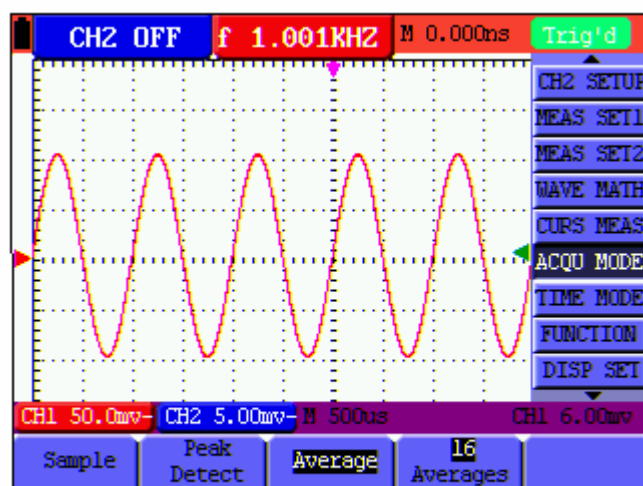

Figure 13: Average Factor Sampling Mode
2. Press **MENU ▲** or **MENU ▼** to select the **ACQU** (acquisition) mode; Four (4) selectable options will display at the bottom of the screen.
3. Press the **F3** key to select **Average Factors** and then press the **F4** key to jump to **Averages 16**. The meter then averages 16 samples (or acquisitions) and displays the final result. Refer to Figure 13: